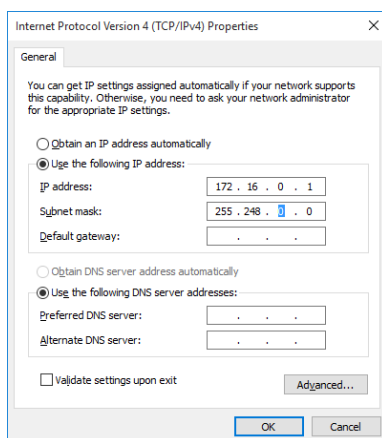

Fig. 4.8: Internet Protocol Version 4 (TCP/IPv4) Properties window
5. Copy the same configuration as in Fig. 4.8 on the “Internet Protocol Version (TPC/IPv4) Properties” window.